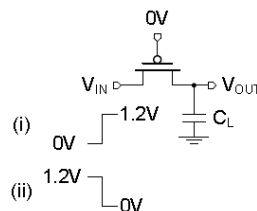

Figure 7.
- c) For Fig. 7, initially output voltage, V_{OUT} , is discharged ($V_{OUT}=0$). Find the energy dissipated in the transistor during the first 0 \rightarrow 1 transition. Then, after the output reaches its final value, a 1.2V to 0 step is applied to the input, followed by the second 0 to 1.2V step. Find the energy dissipated in the transistor in the first 1 \rightarrow 0 transition. The load capacitor C_L is 10fF. [5 pts]